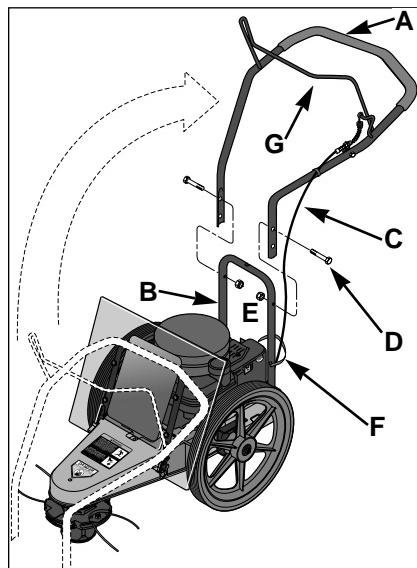

Figure 2-2: Handlebar installation.
- A. Cut the plastic tie and remove the tape that secures the control bail (G, Fig. 2-2) to the handlebar (A).
- B. Using care not to pinch the attached cable, lift the handlebars (A, Fig. 2-2) to rear of the unit and align the handlebar ends with the handlebar support (B).
- C. Route the cable (C, Fig. 2-2) to the outside of the handlebars.
- D. Select either the low or high height setting holes (most people prefer the low setting) in the handlebar legs and attach the handlebars with the two screws (D) and locknuts (E) from the hardware bag. Use two 1/2" wrenches.
- E. Use the cable tie (F, Fig. 2-2) from the hardware bag to secure cable (C) to handlebar at the location shown.